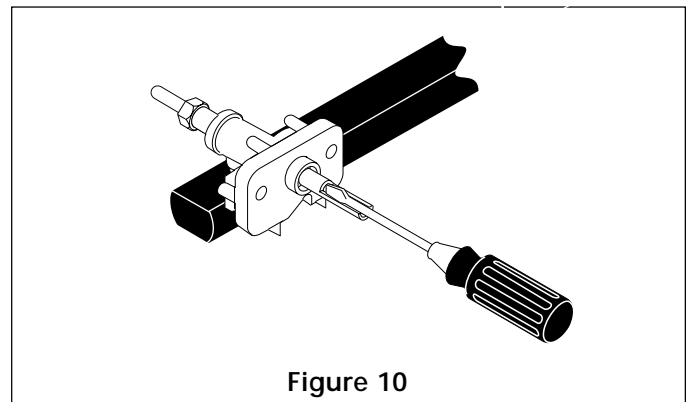

Figure 10
4. Adjust the "LOW" Setting of Surface Burner Valves (see Figure 10)